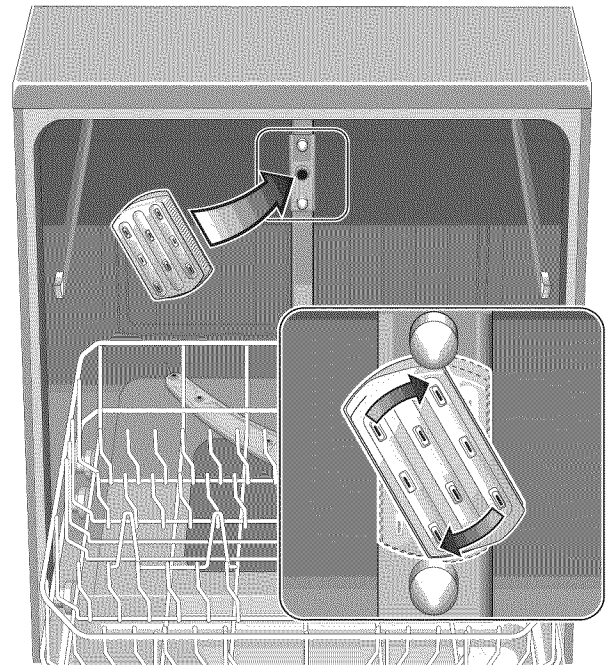

Figure 9. Installation of the Tall Item Sprinkler.
A special "Tall Item Sprinkler" is provided with the dishwasher to allow use of the dishwasher with upper rack removed. See **Figure 9**.
2. Place the "Tall Item Sprinkler" over the upper rack spray outlet at the back of the dishwasher tub, **Figure 9**, and turn clockwise to lock sprinkler head in place.